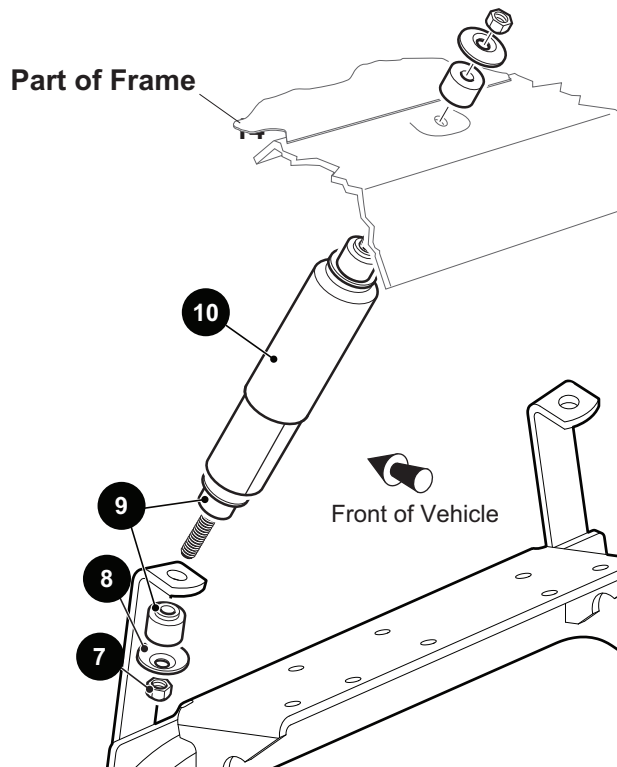

Fig. 5 Shock Absorber
2. Remove the nut (1) from the bottom of the shock absorber (2) at the front axle (3) (Ref Fig. 5).